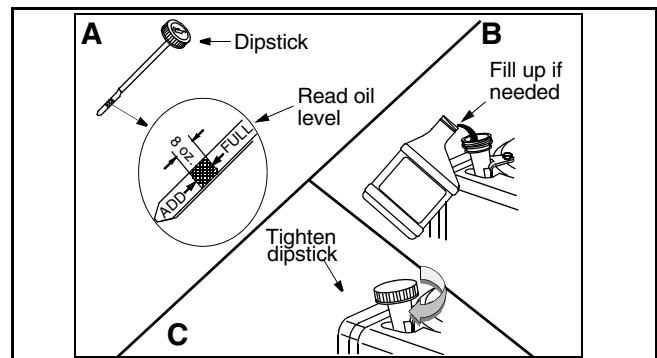

Figure 11
1. With engine on level ground, oil must be to FULL mark on dipstick. See Figure 11.